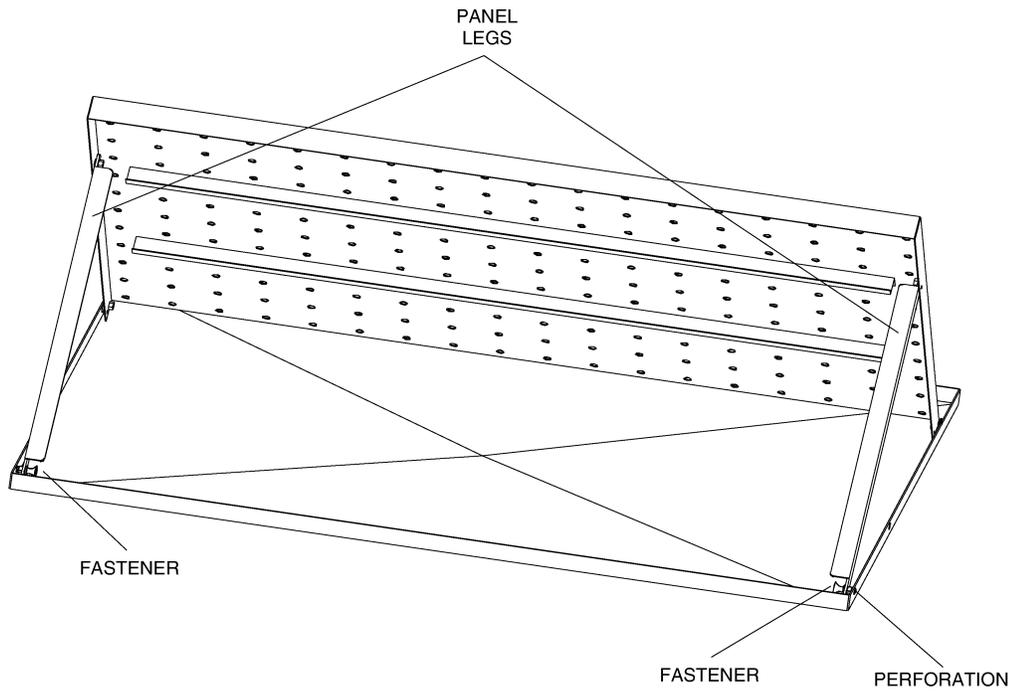

Figure 1-13. Tightening the panel legs.
- To tilt a panel, slowly lift it until the desired inclination is obtained, then hold the panel in place using the two legs on the back of the panel. Fasteners on the legs and perforations on each side of the panel allow you to tighten down the legs, as shown in Figure 1-13. Tighten these down.